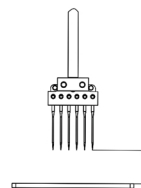

图13 (Fig.13)
1. 当针杆上升至最高点时, 调整针尖与针板面的距离为 13 ± 0.5 mm。(图13)
1. Needle tip should be 13 ± 0.5 mm height from Needle plate when Needle Bar mores to its top position. (Fig.13)